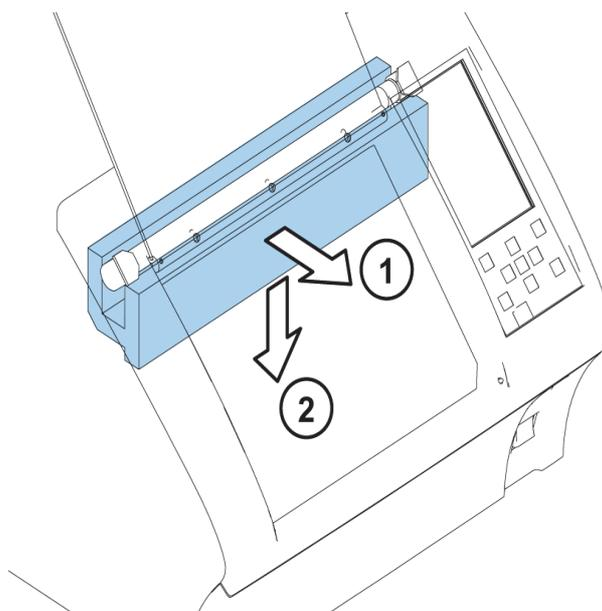

Figure 10. Removing the UV lamp protection
1. Connect the power supply cable to the power supply connector and plug in the instrument (see Figure 10).